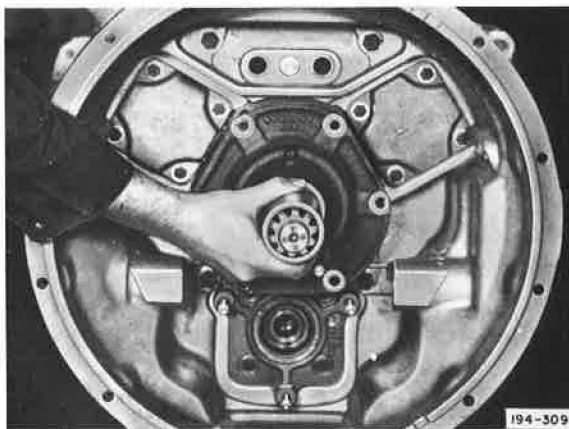

Figure 5-505. Installing Cover
8. For push-type clutch application only: Install main drive pinion bearing cover, using care not to damage sealing lip of oil seal. No special tool is required. See Figure 5-505.